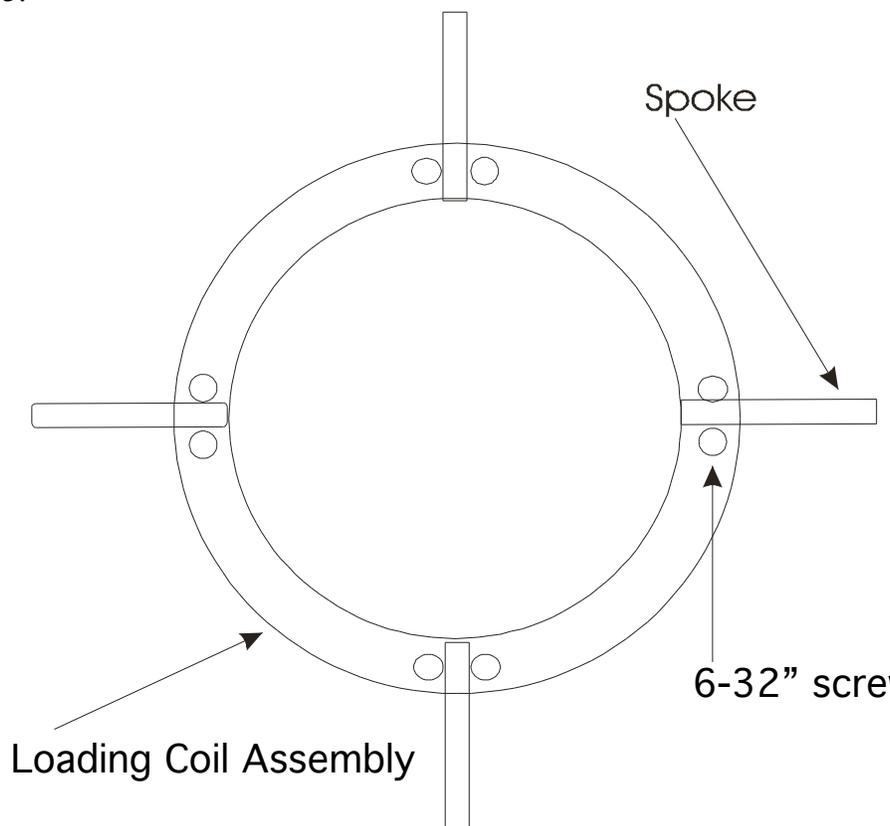

Figure 3
- [] 11. Install the short 6/32" screws in the rings of the loading coil assemblies and place a 6/32" nut on each screw. Put the four medium capacitance spokes in the four holes on the rings of the coil assembly. Then, tighten the screws until the spokes are snug. Now you should be able to turn the coil assembly over and they should balance on the long spokes. See Figure 3.
- [] 12. Install four short capacitance spokes in the next 3 sets of rings. Again, tighten these spokes as was done in step 9. (See Figure 3)